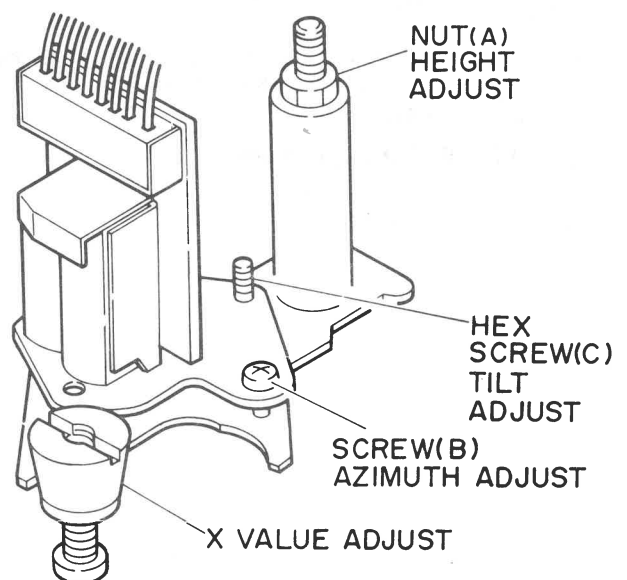

Fig. 9 Audio/Control Head
11. Adjust the A/C control head horizontal (X-Value) position (Fig. 9), if necessary, so the flattest envelope condition occurs at the *Tracking* control (RV751) detent position.
### Audio/Control (A/C) Head Height/Tilt/Azimuth (Fig. 9)
### Audio/Control (A/C) Horizontal Position (Fig. 9)